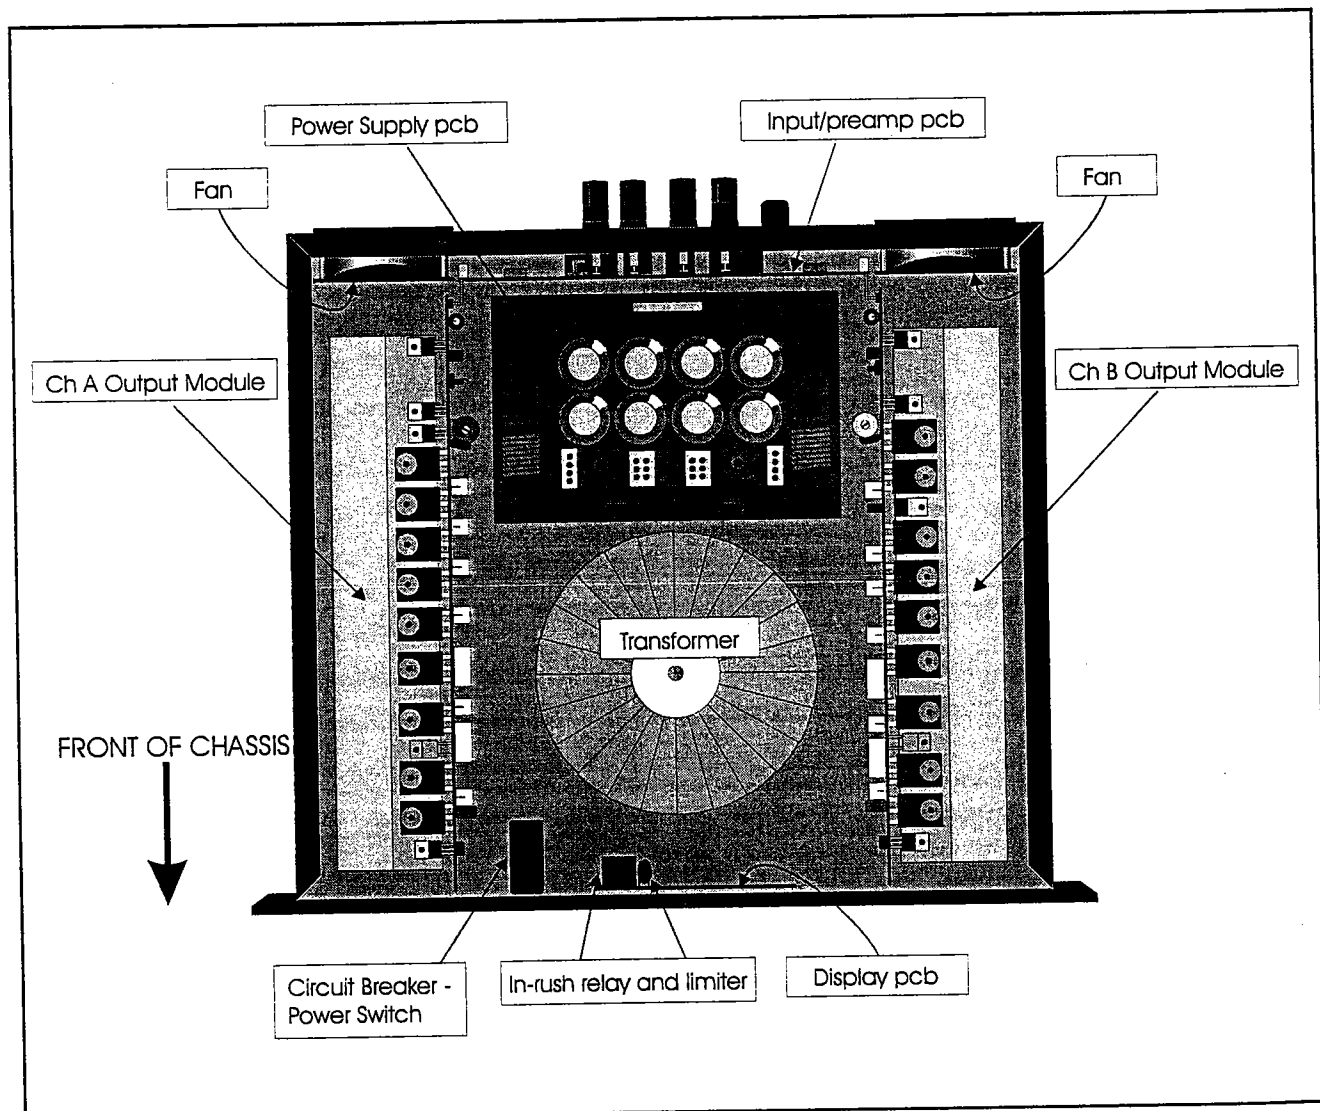

Figure 4-1. CA-9 Amplifier, view with top off
1. The output modules are mounted, on their side, with channel A on the left and channel B on the right side of the chassis as shown in Fig 4-1. Each heatsink is fastened to the bottom of the chassis with 3 screws. *Bypass step 2a unless your breaker is tripping at turn-on.*
b. Locate the power supply/output connectors (Figure 4-1).
4. Unplug the temperature wires and disconnect the modules from the preamp by sliding them toward the front of the chassis. This will disconnect the 17-pin header on the modules from the preamp sockets. (See Fig. 4-1)